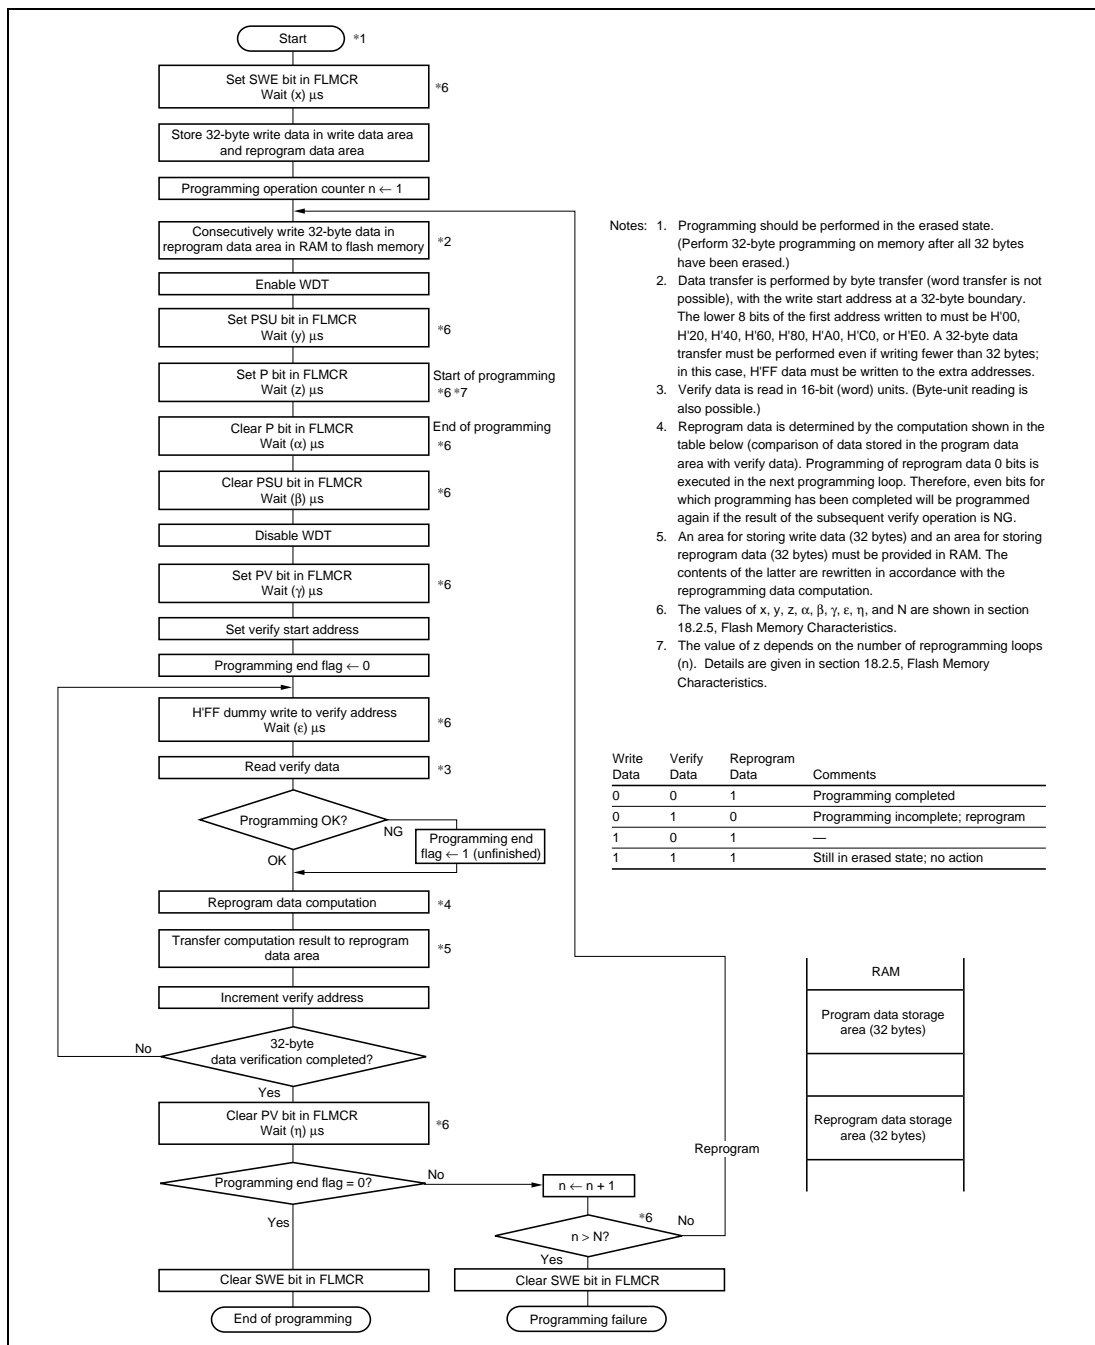

Figure 15.11 Program/Program-Verify Flowchart
Follow the procedure shown in the program/program-verify flowchart in figure 15.11 to write data or programs to flash memory. Performing program operations according to this flowchart will enable data or programs to be written to flash memory without subjecting the device to voltage stress or sacrificing program data reliability. Programming should be carried out 32 bytes at a time.
Clear the P bit in FLMCR, then wait for at least $(\alpha) \mu\text{s}$ before clearing the PSU bit to exit program mode. After exiting program mode, the watchdog timer setting is also cleared. Then the operating mode is switched to program-verify mode by setting the PV bit in FLMCR. Before reading in program-verify mode, a dummy write of H'FF data should be made to the addresses to be read. The dummy write should be executed after the elapse of $(\gamma) \mu\text{s}$ or more. When the flash memory is read in this state (verify data is read in 16-bit units), the data at the latched address is read. Wait at least $(\epsilon) \mu\text{s}$ after the dummy write before performing this read operation. Next, the originally written data is compared with the verify data, and reprogram data is computed (see figure 15.11) and transferred to RAM. After verification of 32 bytes of data has been completed, exit program-verify mode, wait for at least $(\eta) \mu\text{s}$, then determine whether 32-byte programming has finished. If reprogramming is necessary, set program mode again, and repeat the program/program-verify sequence as before. However, ensure that the program/program-verify sequence is not repeated more than (N) times on the same bits.